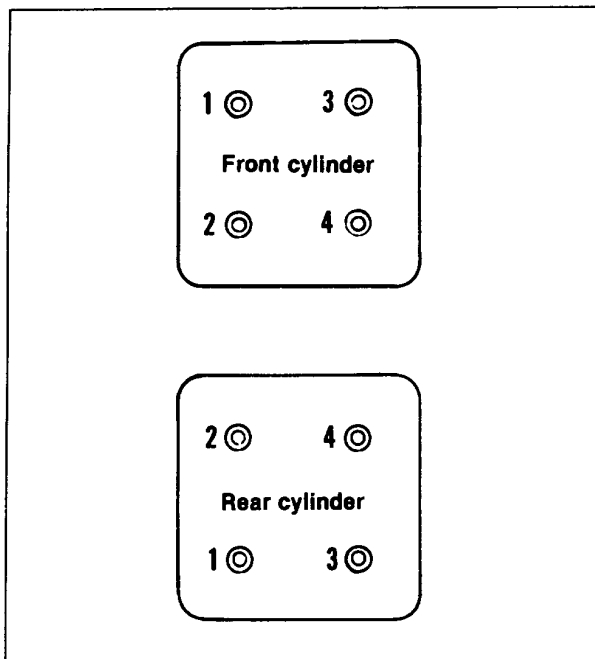

Figure 6. Cylinder Heads Torque Sequence
2. See Figure 6. Install cylinders and heads. The procedure for tightening the head bolts is extremely critical; not only to prevent gasket leaks, but to prevent failure of the studs and distortion of the heads and cylinders.
- a. See Figure 6. With a torque wrench, start at the head screw numbered "1" and tighten to 7 ft-lbs torque. Then tighten "2", "3" and "4", in order, to 7 - 9 ft-lbs torque.